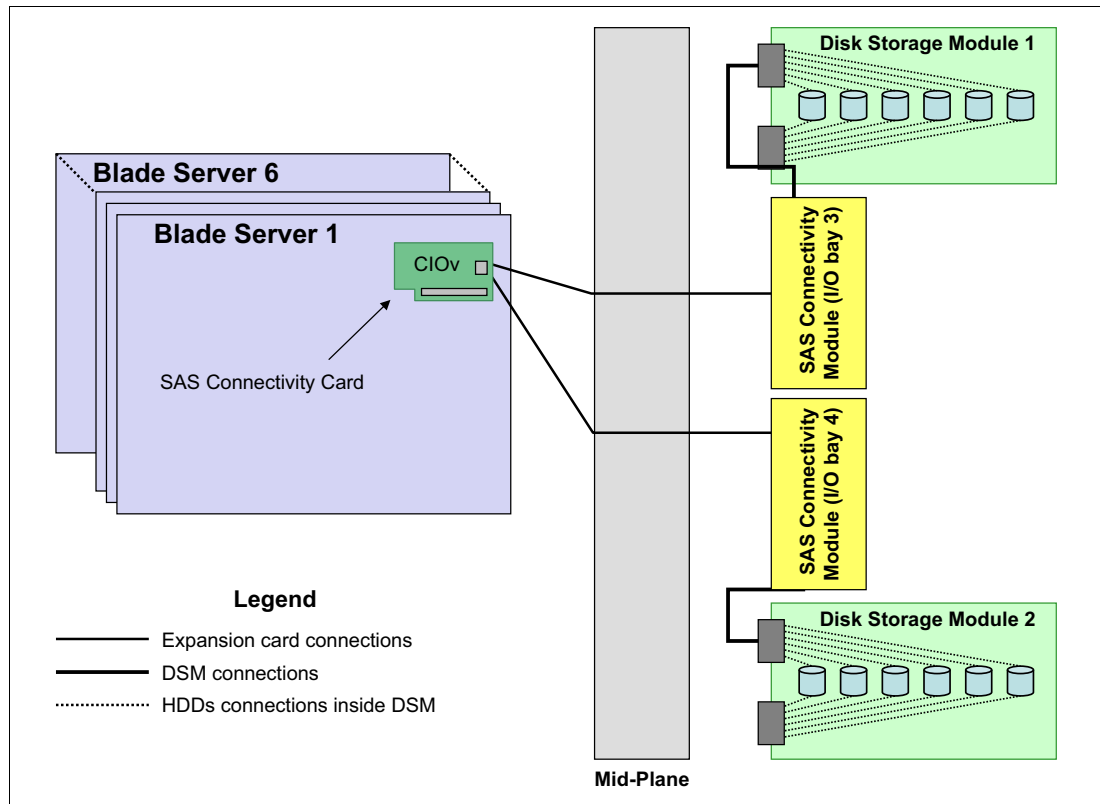

Figure 5-8 SAS I/O connections with two SAS Connectivity Modules installed
Figure 5-8 shows a sample connection topology for basic local storage with two SAS Connectivity Modules installed.
- RAID 0 (Integrated Striping (IS))
- RAID 1 (Integrated Mirroring (IM))
- ▶ When you create a RAID 1 array, span both disk storage modules. This configuration maximizes the availability of data if one of the paths to the disks is lost because there is only one connection to each disk storage module, as shown in Figure 5-8 on page 482.